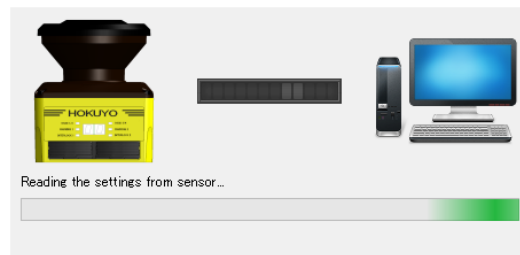

Figure7-57 Reading the configuration of UAM
- b) Select Load settings on the sub panel window. Progress panel will appear (Figure 7-57) showing the state. If this button is clicked without connecting the UAM a dialog box will appear to read settings from the SD card (refer to section 7.9.1).